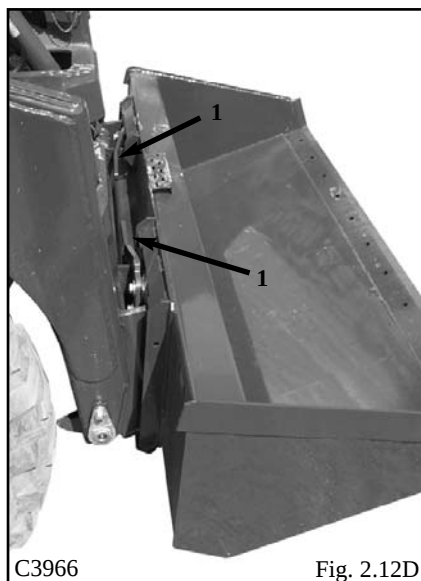
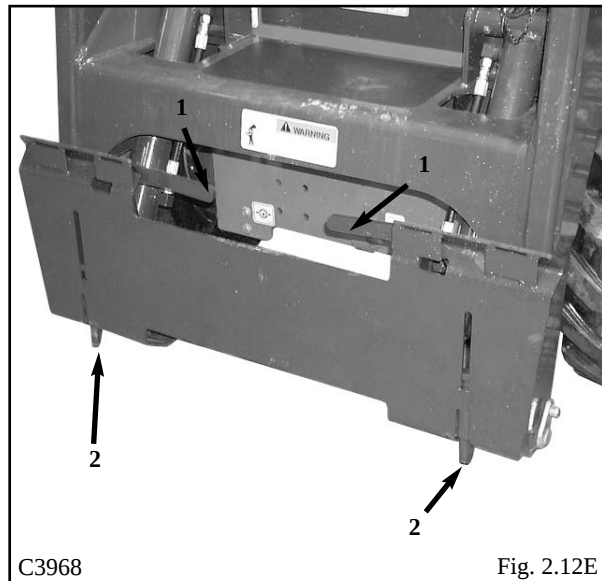

Fig. 2.12D
Fig. 2.12E
Push the locking lever (1) fully down (Fig. 2.12D) extending the lock pins (Fig. 2.12E item 2) through the attachment and securing the attachment.